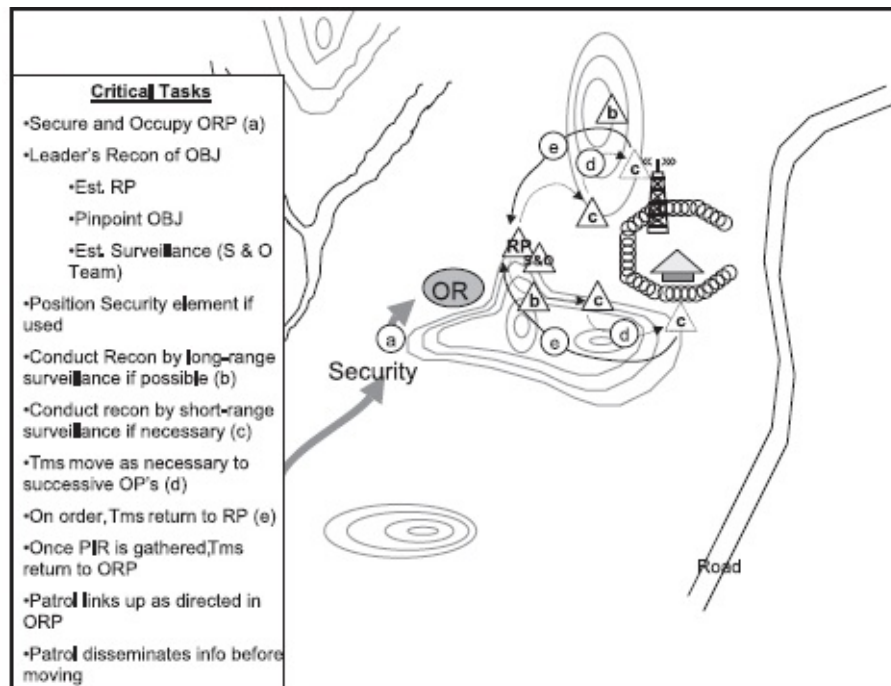

Figure 3-1. Actions on the objective, area reconnaissance
c. Actions on the Objective, Area Reconnaissance (Figure 3-1).
- (1) The element occupies the ORP as discussed in the section on occupation of the ORP. The RTO calls in spare for occupation of ORP. The leader confirms his location on map while subordinate leaders make necessary perimeter adjustments.
- (2) The PL organizes the platoon in one of two ways: separate recon and security elements, or combined recon and security elements.
- (3) The PL takes subordinate leaders and key personnel on a leader's recon to confirm the objective and plan.
- (4) The PSG maintains security and supervises priorities of work in the ORP.